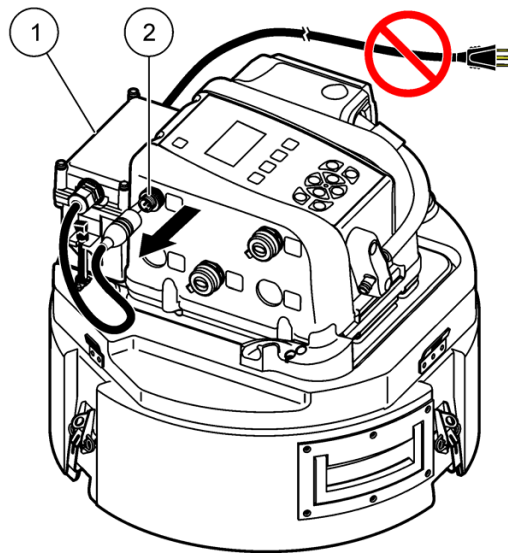

Figure 2 SD900 Portable Sampler power disconnect
3. Disconnect the power connector cable from the controller (Figure 2).